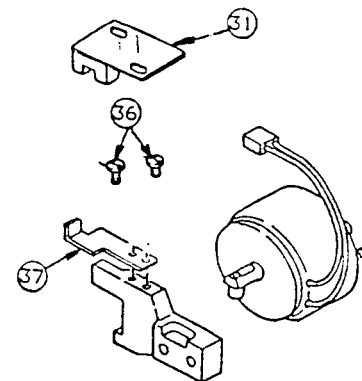

Fig.10
3. To adjust cutting starting lever arm sensor shut off plate. (Fig.10)